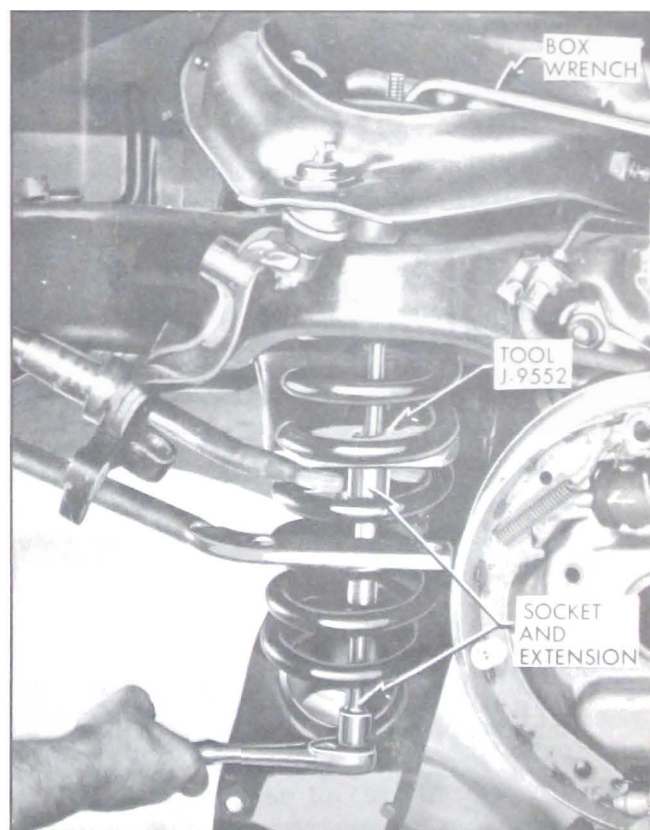

Figure 7-18—Compressing Front Spring With Tool J-9552
4. Place a box wrench on the upper nut of the tool to keep it from turning. Now tighten the bolt with a 7/8" socket and extension. See Figure 7-18.